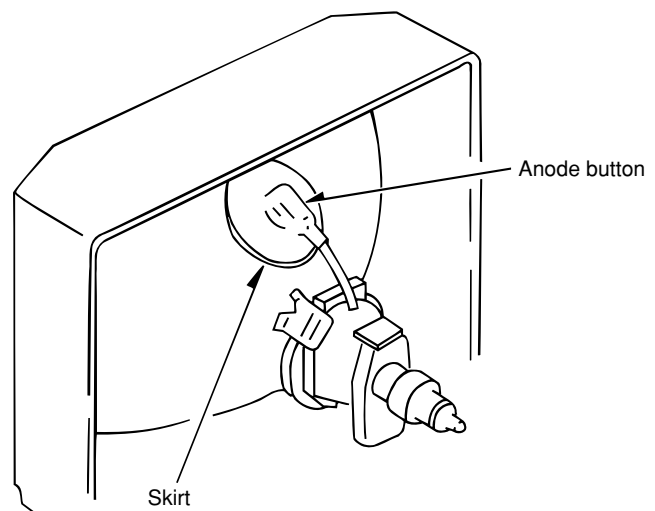

Figure 3-8
- (10) Hold the skirt of the anode cap slightly to improve the close contact between the cap and CRT.
- (11) Check that the anode cap is in close contact with the CRT. (See Figure 3-8)